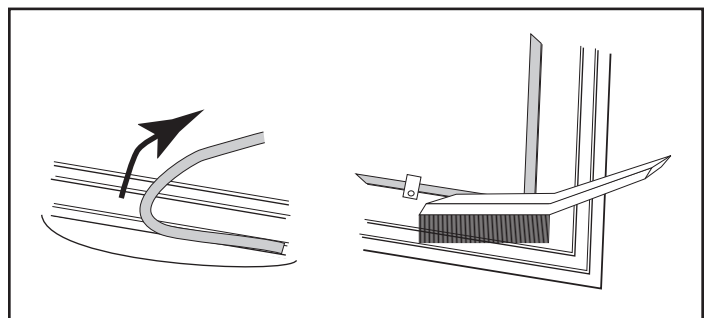

Figure 3.4 - Remove gasket then clean channel with wire brush.
1. Remove the existing gasket by grasping an end and pulling firmly. (Figure 3.4)
- Use a wire brush or the tip of a screwdriver to clean the channel of any remaining cement or bits of gasket. Remove stubborn deposits of cement with a cold chisel if necessary. (Figure 3.4)